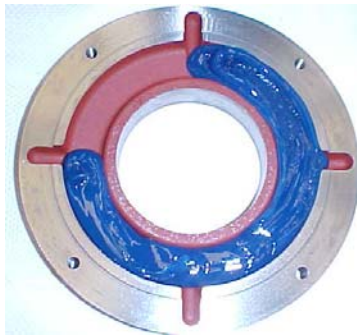

Figure 7.5: External bearing fixing ring
3. Fill $\frac{3}{4}$ of the inner and outer fixing rings reservoir with the recommended grease (Figure 7.5) and lubricate the bearing with enough grease before assembling it;